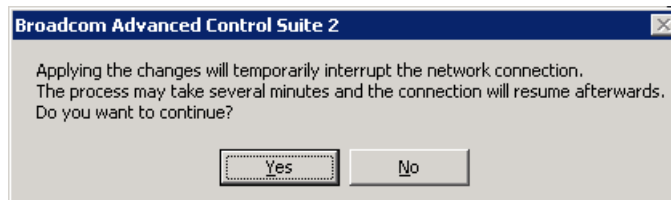

Figure 5-36 Dialog box
- Click **Apply** to configure this team; a warning will display (Figure 5-36) stating that applying the changes will temporarily interrupt the network connection. Click **Yes** to continue.